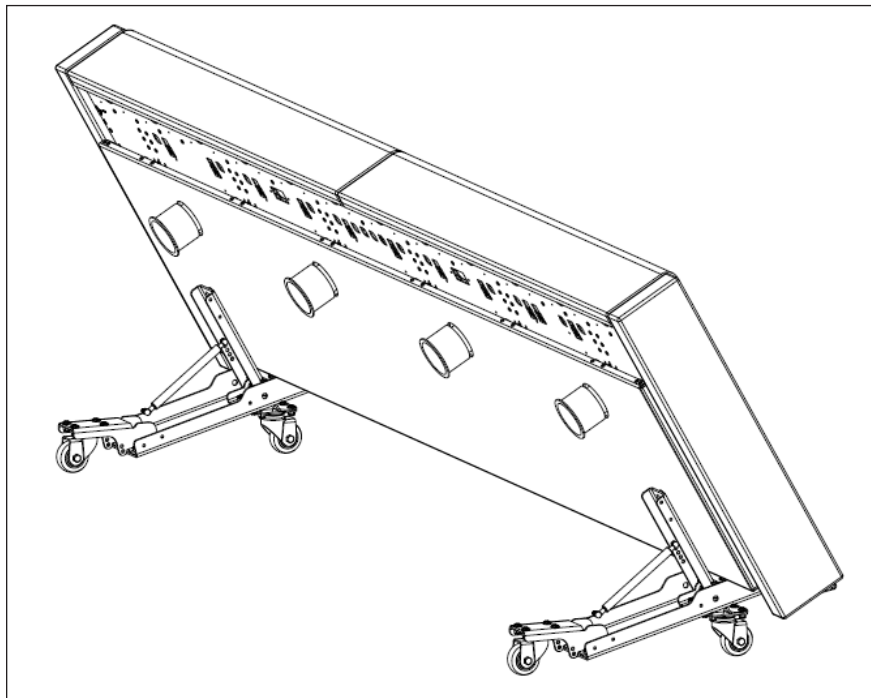

Figure 32: Transport Mode
8. At this point, the table is back in transport mode and can be moved to storage or an alternate location. Refer to **Figure 32**.